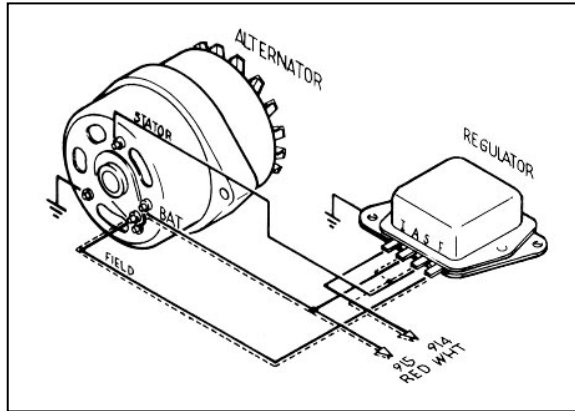

Figure 8-1A Ford Alternator (2 configurations)
8.1 Ford Alternator (2 configurations). See Figures 8-1A and 8-1B.
- 8.1.4** An alternate (and less-used) method is to omit the Alternator Stator wire, install a 14-gauge jumper across Voltage Regulator terminals A & S, and connect wire #914 to either the A or S terminal of the Voltage Regulator. The FIELD wire and wire #915 are connected as above. Do **NOT** install a jumper as in **Paragraph 8.1.2**. The Voltage Regulator Ignition (I) terminal is not connected. Install ground wires as in **Paragraph 8.1.4**. This alternate configuration is illustrated in dashed lines in **Figure 8-1A**.